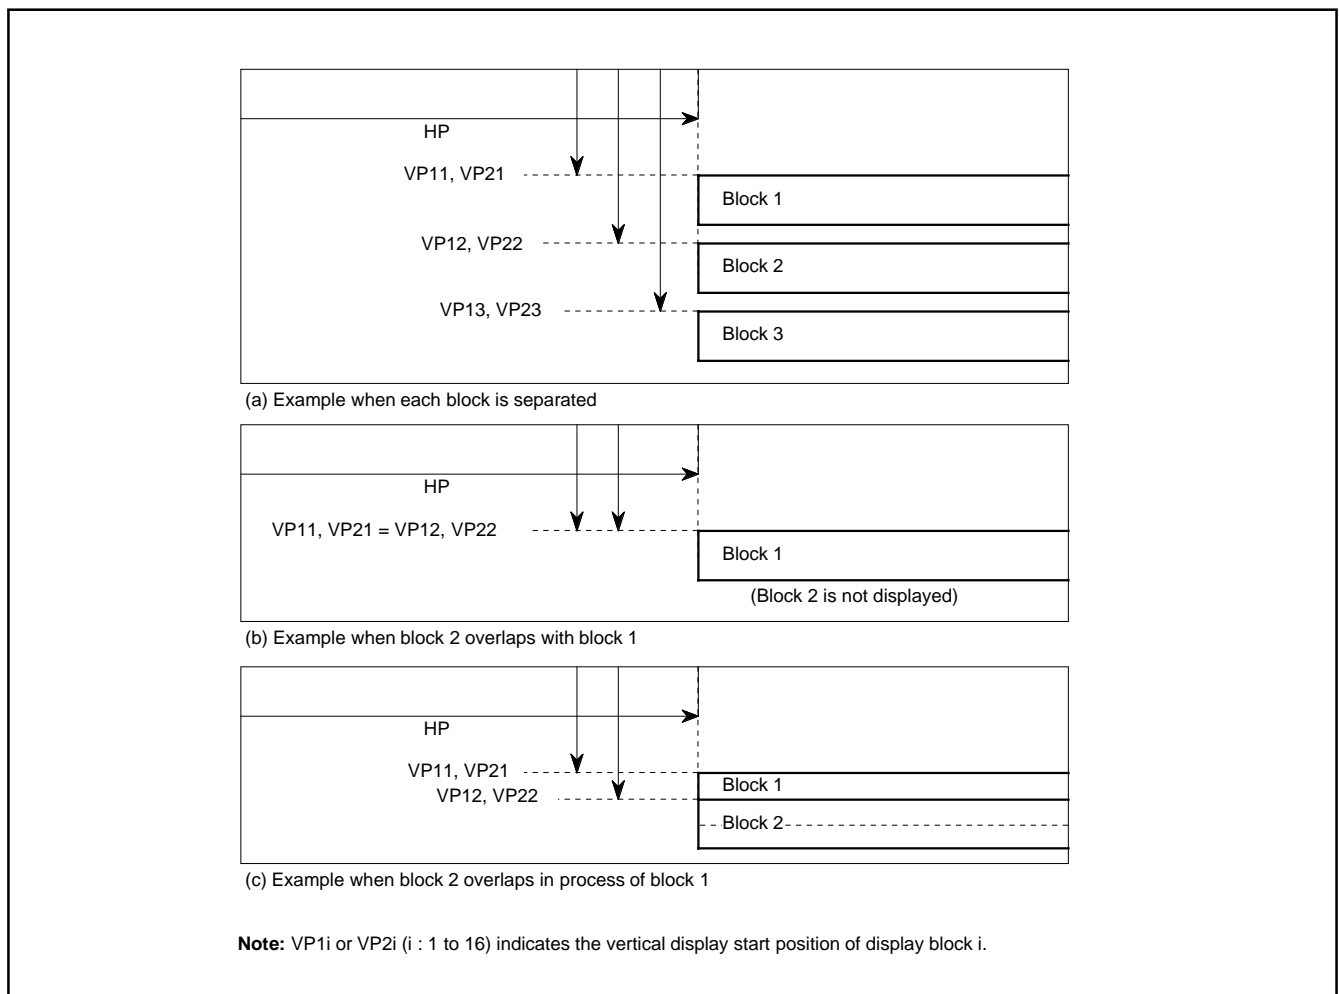

Fig. 8.11.8 Display Position
- When the display position is overlapped with another block (Figure 8.11.8 (b)), a lower block number (1 to 16) is displayed on the front.
- When another block display position appears while one block is displayed (Figure 8.11.8 (c)), the block with a larger set value as the vertical display start position is displayed. However, do not display block with the dot size of $2T_c \times 2H$ or $3T_c \times 3H$ during display period (*) of another block.